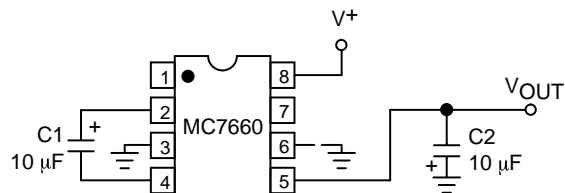
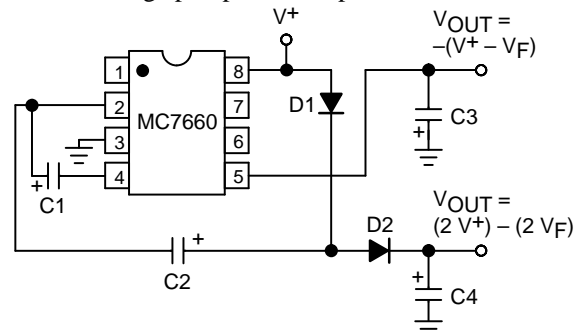
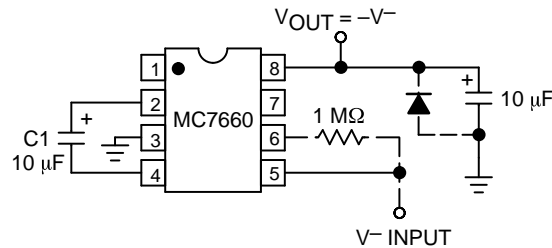
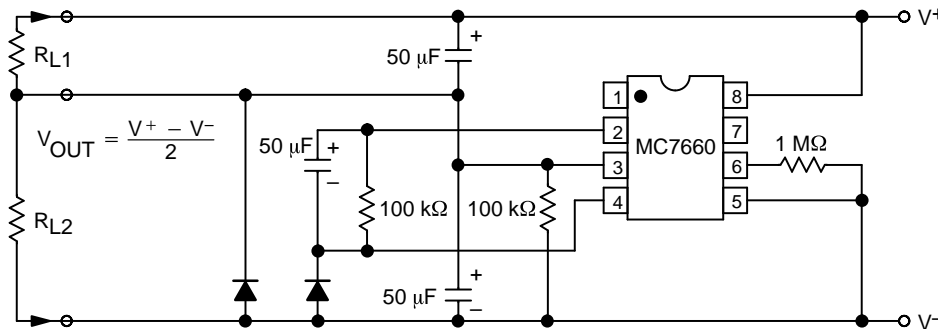

Figure 3. Simple Negative Converter
Figure 9. Combined Negative Converter and Positive Multiplier
Figure 10. Positive Voltage Conversion
Figure 11. Splitting a Supply in Half
Figure 3 shows typical connections to provide a negative supply where a positive supply is available. A similar scheme may be employed for supply voltages anywhere in the operating range of +1.5V to +10V, keeping in mind that pin 6 (LV) is tied to the supply negative (GND) only for supply voltages below 3.5V.
The output characteristics of the circuit in Figure 3 are those of a nearly ideal voltage source in series with 70Ω. Thus, for a load current of -10mA and a supply voltage of +5V, the output voltage would be -4.3V.
Figure 9 combines the functions shown in Figures 3 and 8 to provide negative voltage conversion and positive voltage multiplication simultaneously. This approach would be, for example, suitable for generating +9V and -5V from an existing +5V supply. In this instance, capacitors C_1 and C_3 perform the pump and reservoir functions, respectively, for the generation of the negative voltage, while capacitors C_2 and C_4 are pump and reservoir, respectively, for the multiplied positive voltage. There is a penalty in this configuration which combines both functions, however, in that the source impedances of the generated supplies will be somewhat higher due to the finite impedance of the common charge pump driver at pin 2 of the device.
Since the switches that allow the charge pumping operation are bidirectional, the charge transfer can be performed backwards as easily as forwards. Figure 10 shows a MC7660 transforming -5V to +5V (or +5V to +10V, etc.). The only problem here is that the internal
clock and switch-drive section will not operate until some positive voltage has been generated. An initial inefficient pump, as shown in Figure 9, could be used to start this circuit up, after which it will bypass the other (D₁ and D₂ in Figure 9 would never turn on), or else the diode and resistor shown dotted in Figure 10 can be used to "force" the internal regulator on.
The same bidirectional characteristics used in Figure 10 can also be used to split a higher supply in half, as shown in Figure 11. The combined load will be evenly shared between the two sides. Once again, a high value resistor to the LV pin ensures start-up. Because the